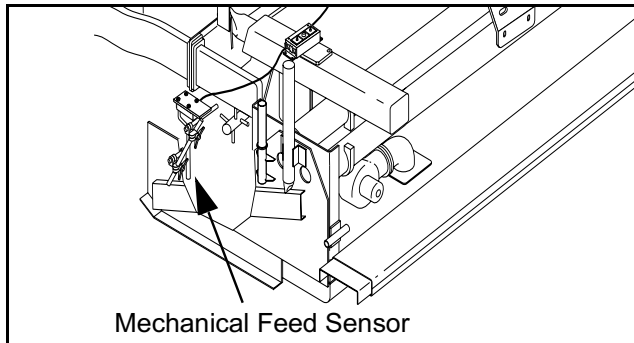

Figure 4 - 25 Mechanical feed sensor
- 6) If a mechanical feed sensor is used, clean the wand with solvent and wipe any asphalt off of the feed controller with a cloth dampened with solvent. (Figure 4 - 25)